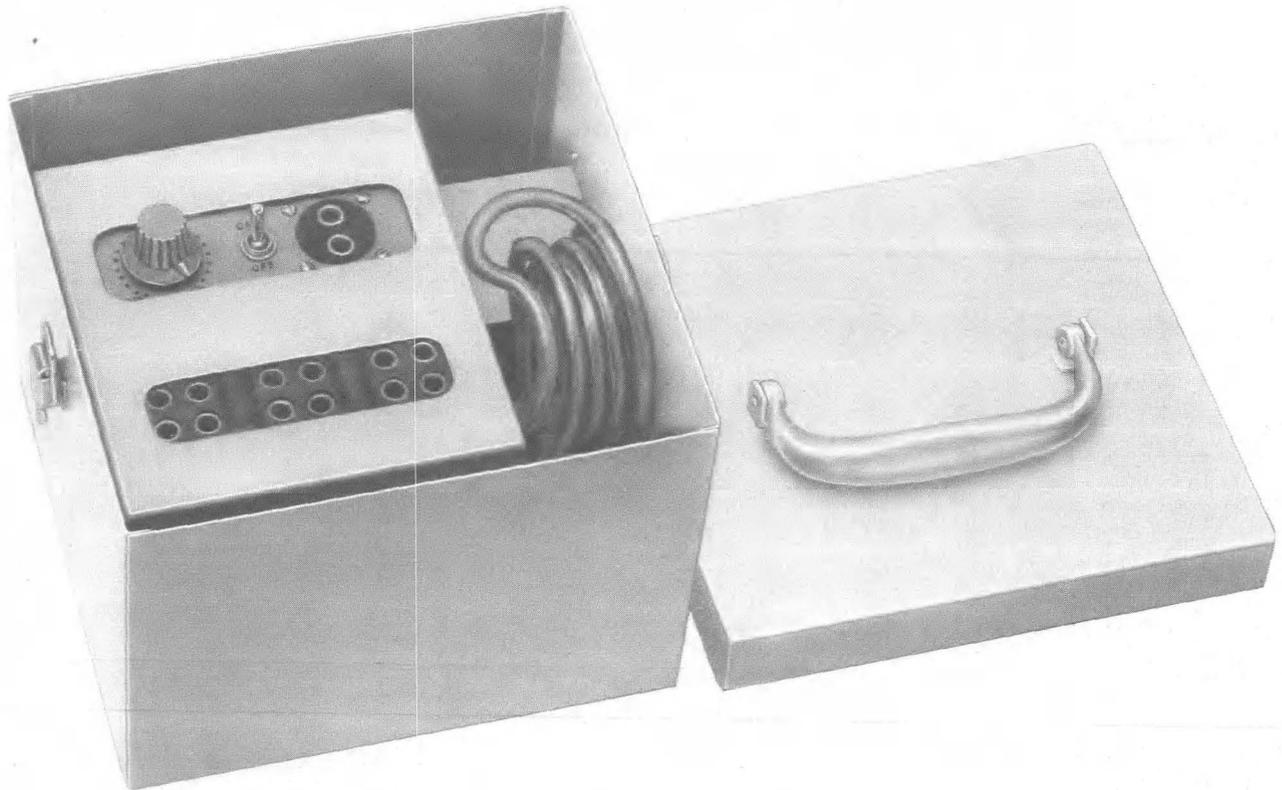

Fig. 3—KS-20159 Equalizer-Amplifier and L6 Power Supply Assembly in an L5 Carrying Case
2.03 Figure 3 shows the KS-20159 equalizer-amplifier and KS-20159 L6 power supply assembly mounted in a KS-20159 L5 carrying case. It is intended only for portable use and is not equipped for rack mounting.